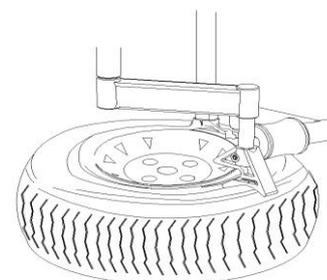

Fig 19
- 2) Rotate the roller support to move the tire pressing roller near the mounting head (about 3-4 cm). Position the tire pressing head (upper) about 90 degree with the mounting head. Lower the auxiliary arm to press the tire below the mounting head 3-5 mm with the tire pressing roller. Tread the corresponding pedal to turn the turntable in clockwise direction. Then the tire pressing head (upper) rotate together with the turntable to mount the tire.( Fig 19)